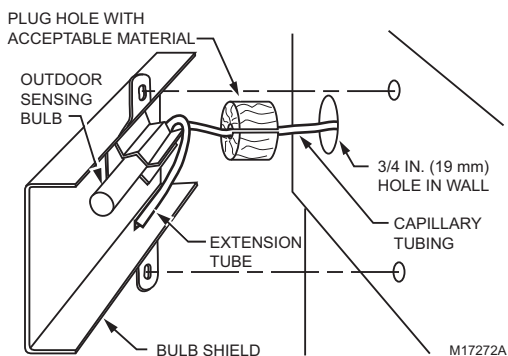

Fig. 16. Mounting bulb in bulb shield.
5. Mount the bulb in the bulb shield. See Fig. 16.